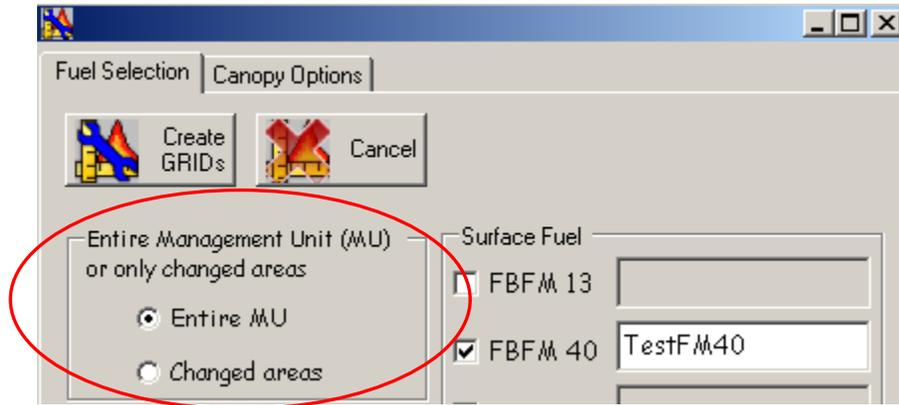

Figure 6-21. Use the radio buttons to select **Entire MU** or **Changed areas** only.
- In the top left portion of the **Fuel Selection** page labeled “**Entire Management Unit (MU) or only changed areas,**” use the radio buttons to select either “**Entire MU**” or “**Changed areas**” to specify if you would like these changes applied to the entire MU or to changed areas only (fig. 6-21). (For more specific information consult section 7.7.)